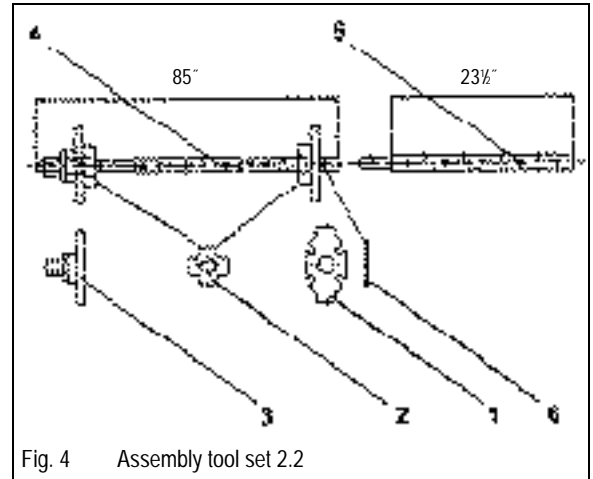
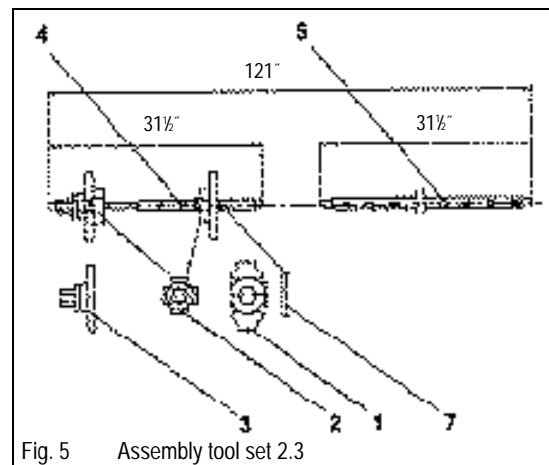

Fig. 4 Assembly tool set 2.2
Fig. 5 Assembly tool set 2.3
- ✓ Boiler assembly tool set 2.2 (Fig. 4) or 2.3 (Fig. 5)
Legend for Figs. 4 and 5